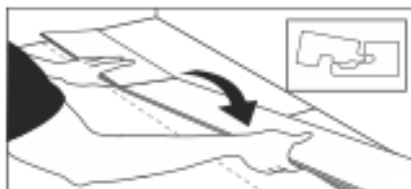

Fig. 5 Installing the second row.
- Continue installing full planks in the second row by snapping the short end of the next plank in the row to lock into the previous plank (Fig. 5). Angle up and push forward until the planks lock together (Fig. 6). Continue installing full planks in the second and subsequent rows until you reach the wall on your right. After all boards in the row are installed, press or walk all planks flat to the subfloor to begin the next row (Fig. 7).